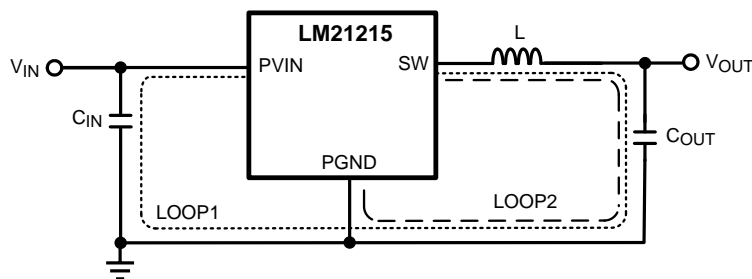

Figure 36. Schematic of LM21215 Highlighting Layout Sensitive Nodes
1. Minimize area of switched current loops. In a buck regulator there are two loops where currents are switched at high slew rates. The first loop starts from the input capacitor, to the regulator PVIN pin, to the regulator SW pin, to the inductor then out to the output capacitor and load. The second loop starts from the output capacitor ground, to the regulator GND pins, to the inductor and then out to the load (see Figure 36). To minimize both loop areas, the input capacitor should be placed as close as possible to the VIN pin. Grounding for both the input and output capacitor should be close. Ideally, a ground plane should be placed on the top layer that connects the PGND pins, the exposed pad (EP) of the device, and the ground connections of the input and output capacitors in a small area near pin 10 and 11 of the device. The inductor should be placed as close as possible to the SW pin and output capacitor.